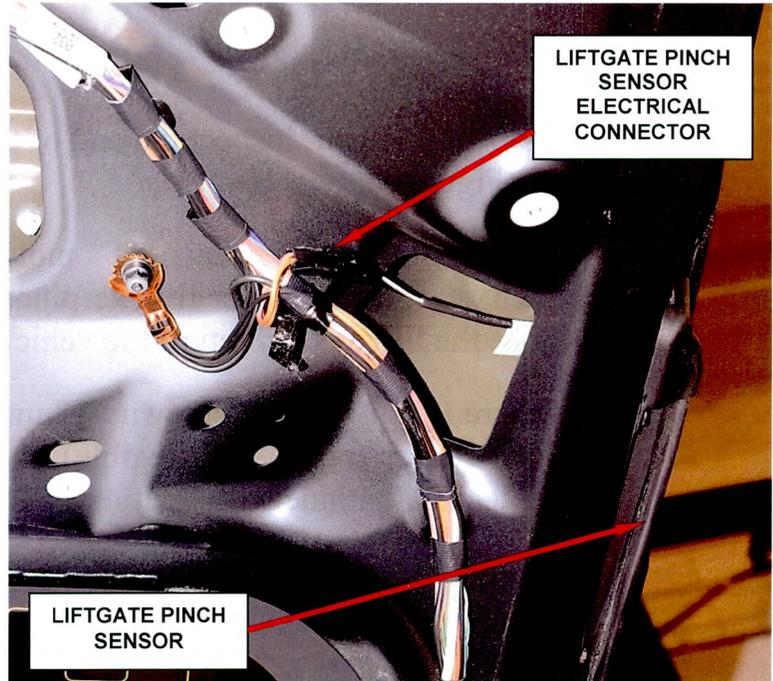

Figure 2 – Pinch Sensor Electrical Connector
4. Disconnect the right side power liftgate pinch sensor electrical connector (Figure 2).
12. Connect the electrical connector from the power liftgate pinch sensor to the body wiring harness (Figure 2).